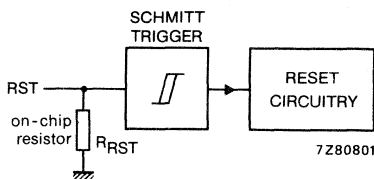

Fig. 12 Reset configuration at RST.
**Reset circuitry** (see Fig. 12)